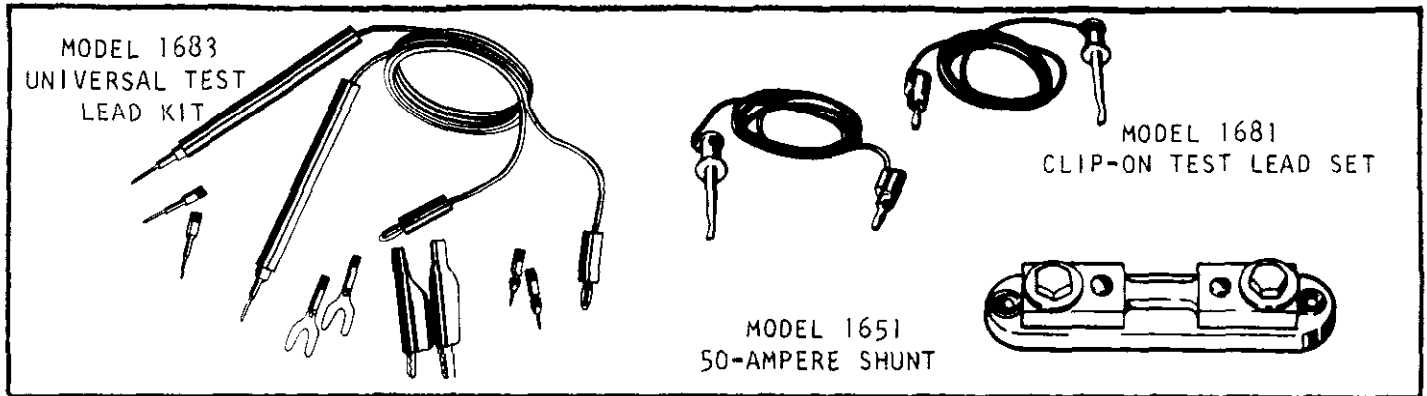

FIGURE 2-5. Accessories.
b. Model 1651 50-Ampere Shunt. The Model 1651 50-Ampere Shunt (shown in Figure 2-5) permits current measurements of up to 50 amperes ac or dc. The shunt has a resistance of 0.001 ohm ±1%, so that a 50-ampere current will correspond to a reading of 50 millivolts (0.0500 volt). Set the DMM to ACV or DCV and select the required range. To use the shunt, connect the leads furnished with the shunt from the shunt screw terminals to the DMM input terminals. Use separate leads (not furnished) to connect the source to the hex head bolts. Be sure to use leads with a capacity of 50 amperes, or as needed.
c. Model 1681 Clip-On Test Lead Set. This set (shown in Figure 2-5) contains two leads with banana plugs at one end and spring-action clip-on probes at the other end. Plug the leads into the DMM and attach the probes to the source.
d. Model 1683 Universal Test Lead Kit. This kit (shown in Figure 2-5) contains 2 test leads, 14 tips, 2 probes, 4 banana plugs 2 spade lugs and 2 phone tips to permit connection of the DMM to virtually any source within its range.